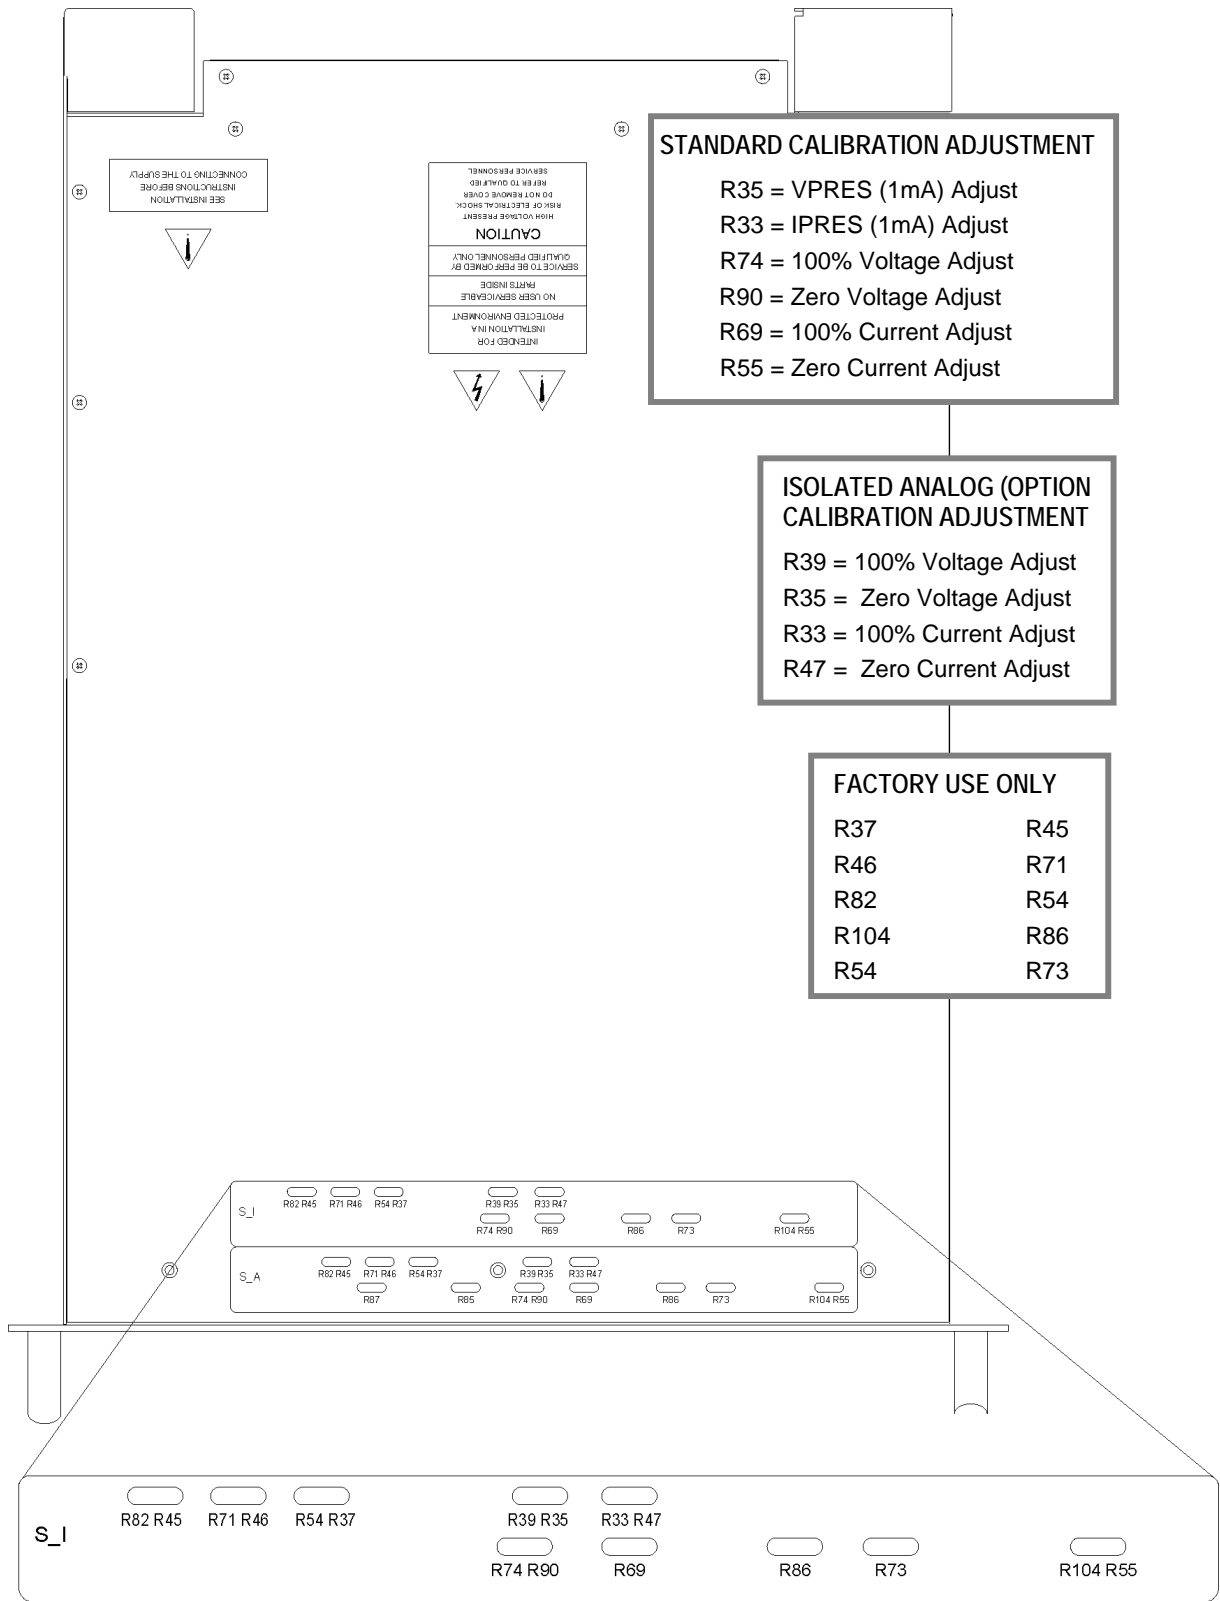

Figure 4-2. Potentiometer Locations
5. Verify that the unit is set to $0V \pm 0.25\%$ of full-scale output voltage. If necessary adjust R35 to obtain zero output volts. (See Figure 4-2.)